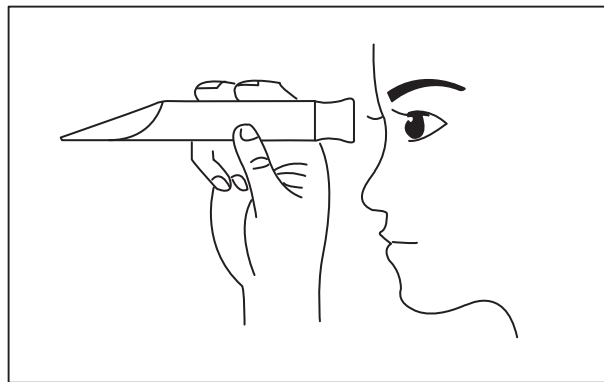

Fig. 6-7 Measuring Procedure 4
4. Read the scale through the eye piece. Turn the eye piece until the scale is clearly visible. (Fig. 6-7)